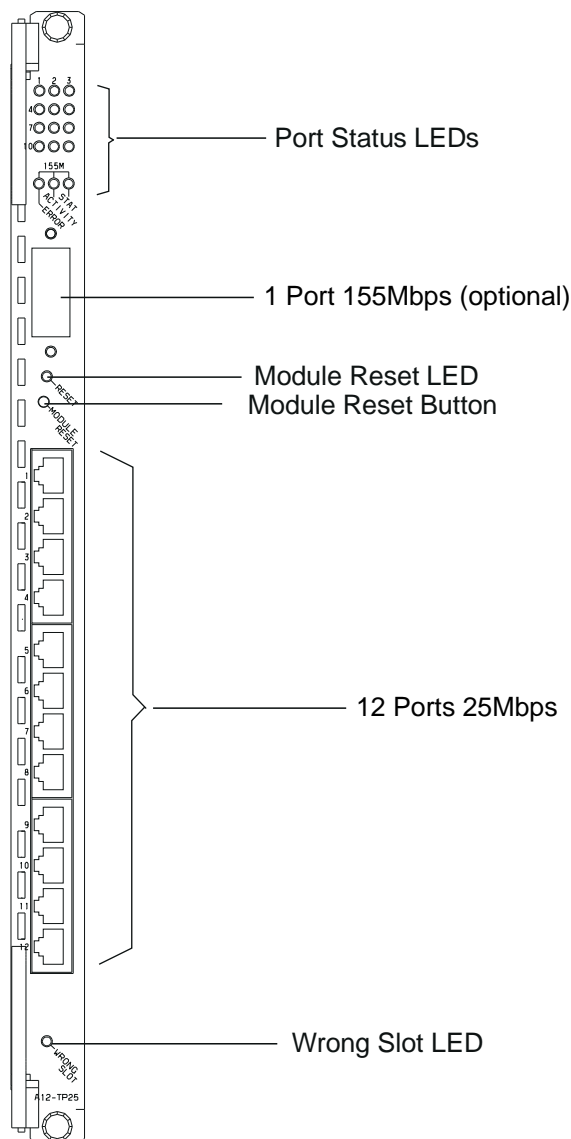

Figure 8. 25 Mbps Module Front Panel
Refer to Figure 8 when installing and configuring the 25 Mbps module.
- The port and module LEDs on the module faceplate (see Figure 8 on page 49)